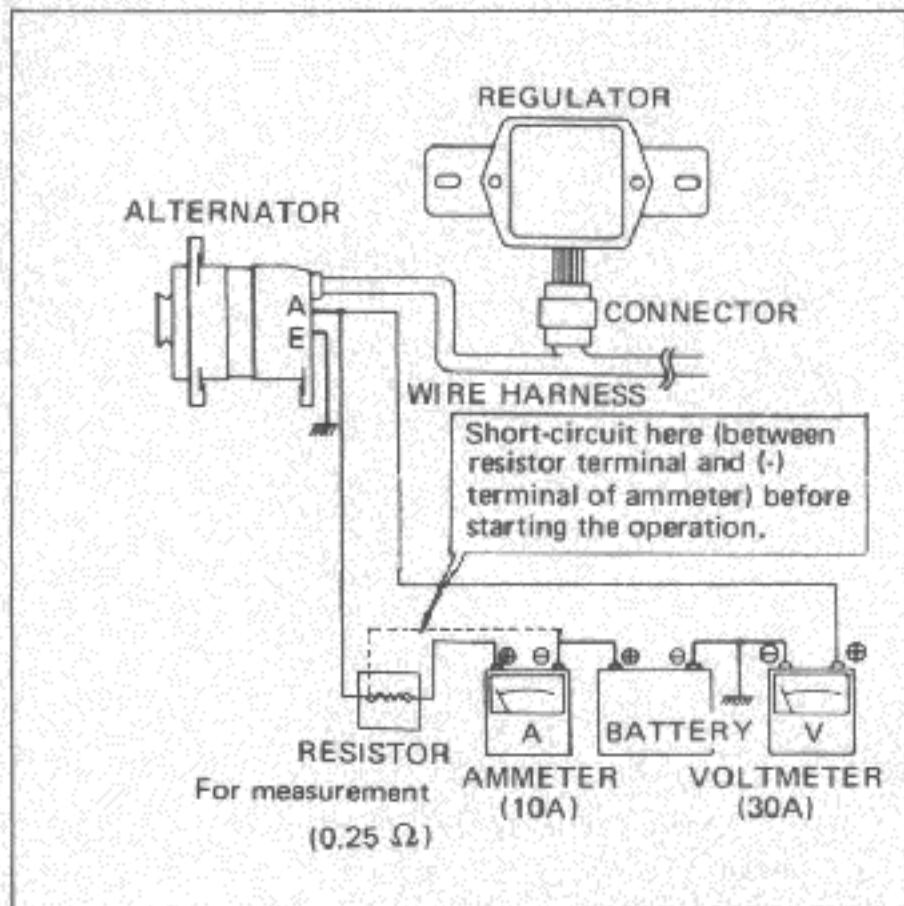

Fig. EE-52 Regulating voltage measuring circuit with regulator and alternator mounted on the vehicle
1. Connect a voltmeter, ammeter, fully charged battery and resistor as shown in Figure EE-52. Install the regulator perpendicularly by facing the connector downward.
3. Before starting the operation, be sure to short-circuit the line between terminal of the resistor for voltage measurement and $\ominus$ terminal of the ammeter. Pointer of the ammeter may deflect rapidly and reversely due to discharge current flowing from the battery resulting damaged ammeter. (See Figure EE-52.)